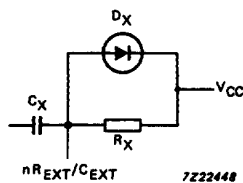

Fig.17 Power-down protection circuit.
A large capacitor (CX) may cause problems when powering-down the monostable due to the energy stored in this capacitor. When a system containing this device is powered-down or a rapid decrease of VCC to zero occurs, the monostable may sustain damage, due to the capacitor discharging through the input protection diodes. To avoid this possibility, use a damping diode (DX) preferably a germanium or Schottky type diode able to withstand large current surges and connect as shown in Fig.17.